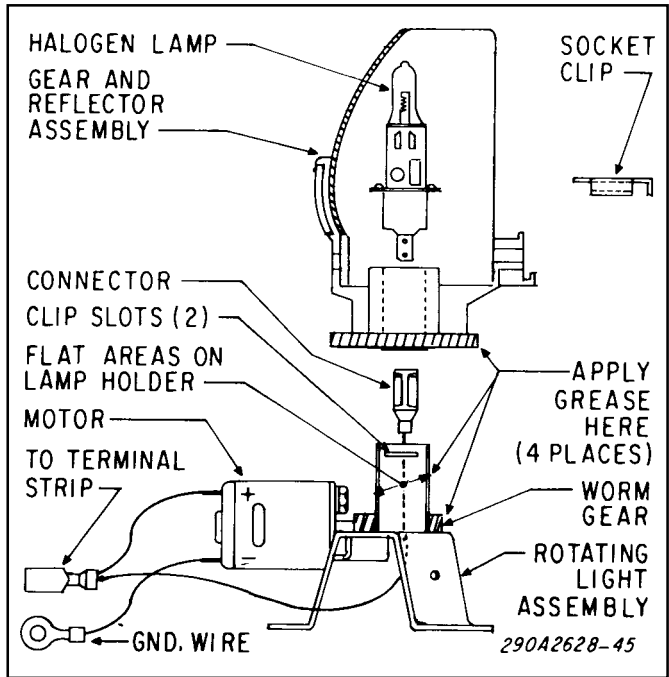

Figure 7.
The rotating light should be lubricated at least twice a year. Use medium consistency Dow Corning DC33 or equivalent type grease. Proceed as follows (see figure 7):
2. Lift-off reflector and worm gear. Lubricate with grease as shown in figure 7.